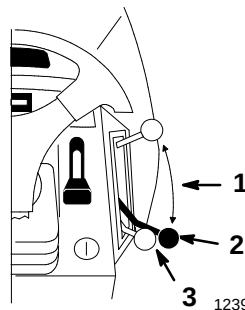

Figure 6
3. Move ground speed selector to “N” (Fig. 6).